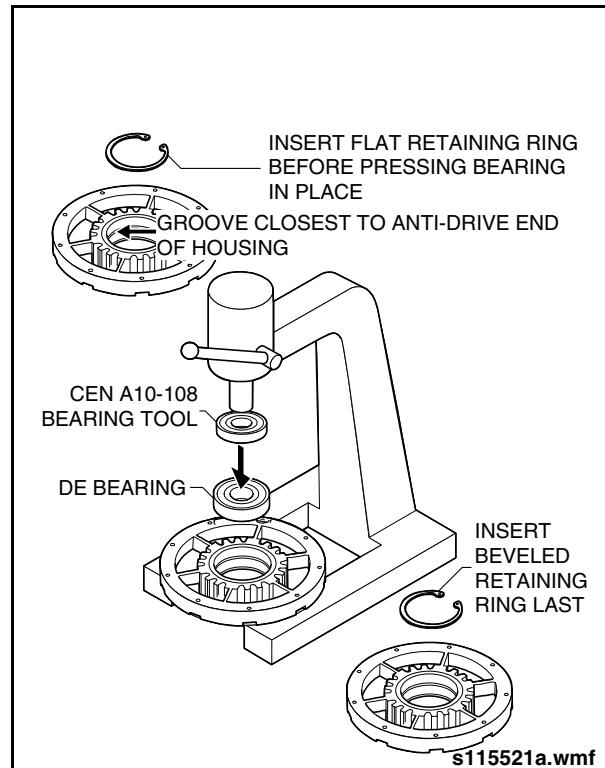

Fig. 9-29: DE Bearing & Housing Assembly
- a. Install flat retaining ring in groove of bearing bore closest to anti-drive end of housing. See "Fig. 9-29: DE Bearing & Housing Assembly" on page 33.